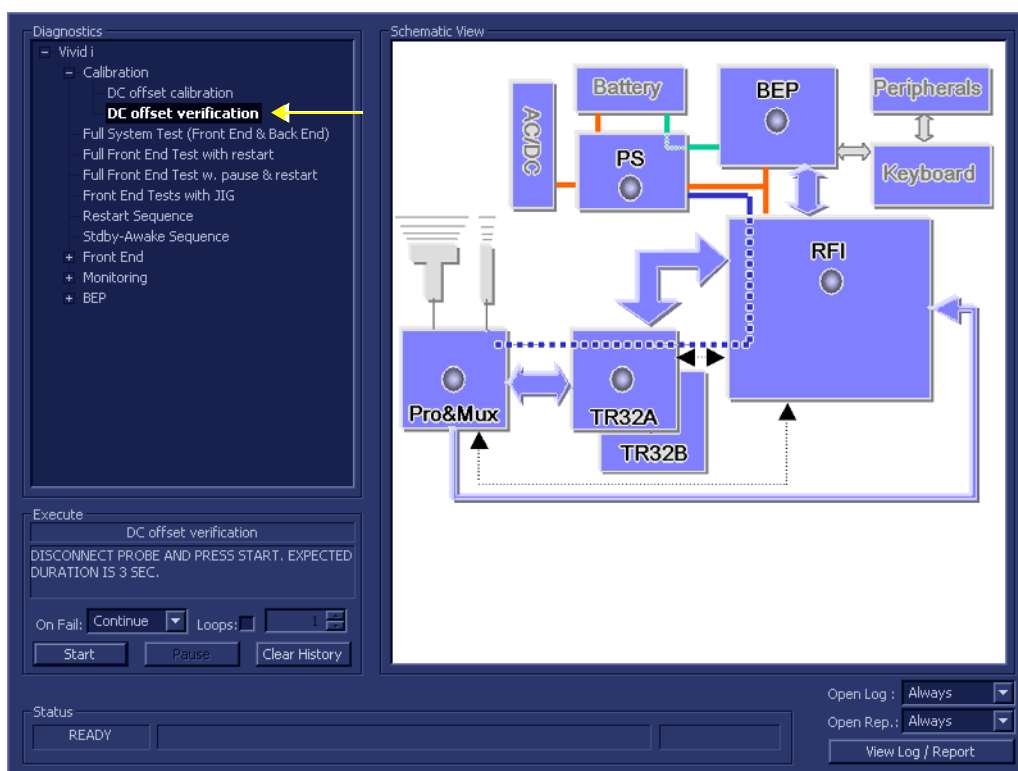

Figure 7-9 DC Offset Verification Test
- 1.) In the *Diagnostic Test* window, trackball to **DC Offset Verification** in the list of tests available for selection from the Diagnostic Test Tree (see Figure 7-9 below) and press **Set**. The DC Offset Verification name is displayed under *Execute*; the relevant system components to be tested are highlighted light blue in the Schematic View (PM, TR32 and RFI boards), as shown below:
- 1.) In the *Diagnostic Test* window, trackball to **RFI FE Cache Test** in the list of *RFI* tests available for selection from the Diagnostic Test Tree (see Figure 7-9 below) and press **Set**. The RFI FE Cache Test name is displayed under *Execute*; the relevant system component to be tested remain highlighted light blue in the Schematic View (RFI), as shown below: